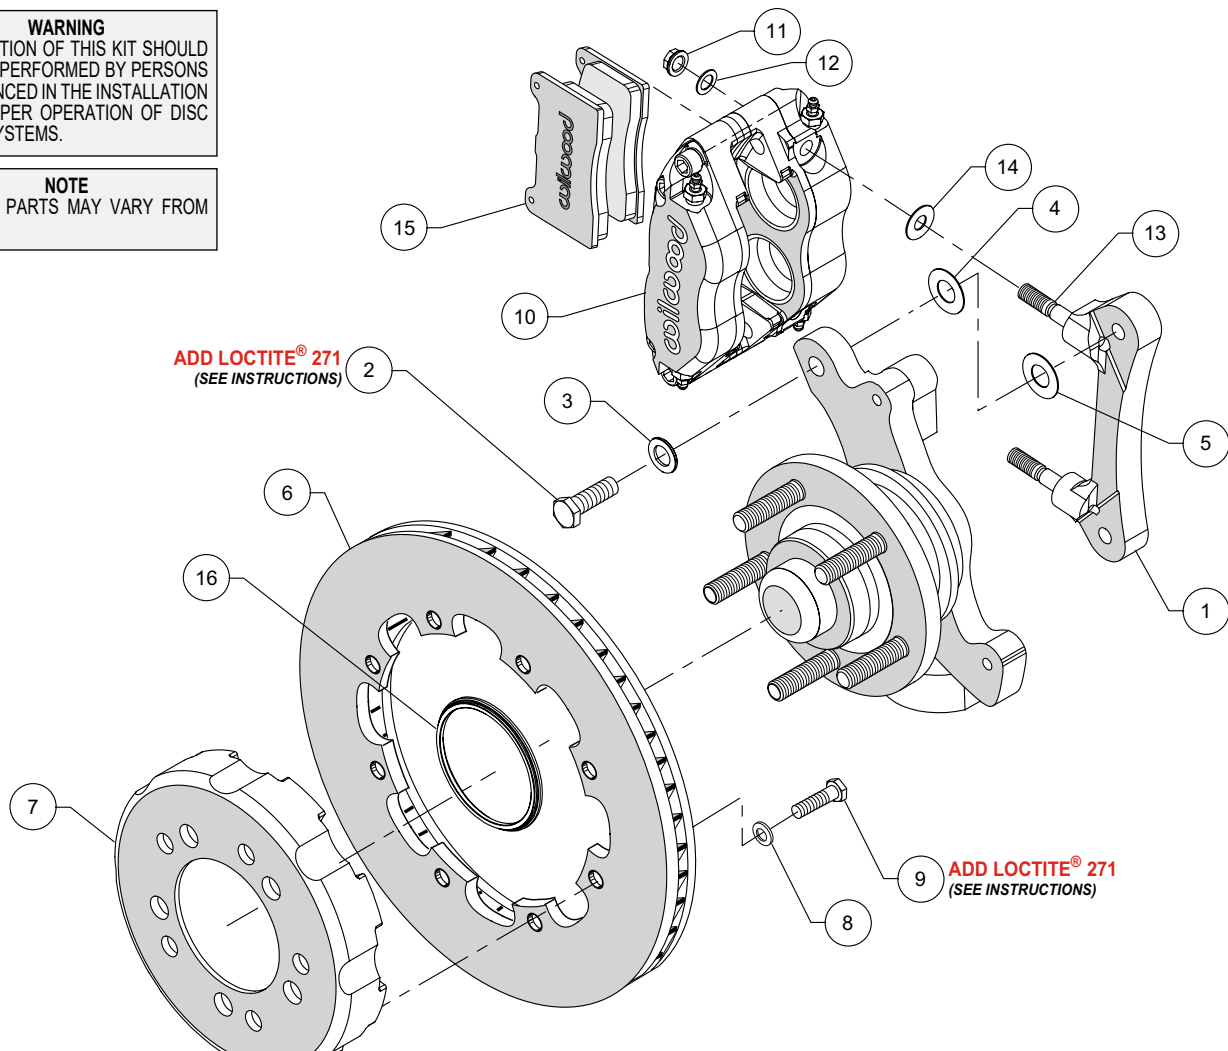
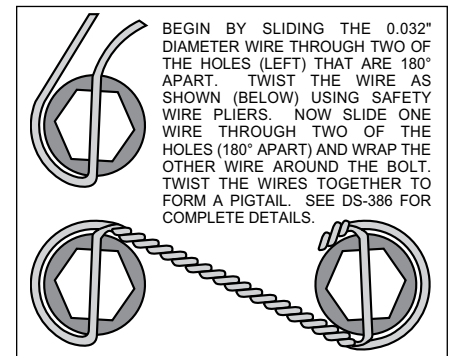

Figure 1. Typical Installation Configuration
Figure 4. Safety Wire Diagram
NOTE: Numbers in parenthesis refer to the parts list and Figure 1 on the preceding pages.
- The caliper mount bracket assembly (1) should be installed first with clean, dry threads on the mounting bolts. Install the bracket on the inboard side of the spindle by sliding bolt (2) through flat washer (3), and spindle ear from the outboard side of the spindle. Place two shim washers (5) between the bracket (1) and the spindle (see figure 1). The bracket must tighten squarely against the inboard side of the modified caliper mount bosses on the spindle body. Inspect for interference from casting irregularities, machining ridges, burrs, etc. Later, after the caliper, pad, and rotor alignment has been checked, and any necessary shims have been put in place, the mount bolts should be coated with red *Loctite*® 271 and torqued to 65 ft-lbs.
- Slide the rotor registration adapter (16) onto the axle register on the axle flange with the smaller O.D. facing toward the hat (7)
- With the larger I.D. side of the rotor (6) facing away from the hat (7), attach the rotor (6) to the hat (7) using washers (8) and bolts (9) as shown in Figure 1. Apply red *Loctite*® 271 to the bolt threads and torque to 25 ft-lb using a criss-cross pattern. For an added measure of security, the bolts may be safety wired using standard 0.032 inch diameter stainless steel safety wire as shown in Figure 4. Please refer to Wilwood's data sheet DS-386 (available at www.wilwood.com/Pdf/DataSheets/ds386.pdf) for complete safety wire installation instructions.
- Install two shims (14) over each stud (13) on the radial mount bracket. Slide the caliper (10) in place over the studs and rotors and install the washer (12) and lock nut (11) to hold the caliper in place. Snug the lock nuts (11) and check that the rotor (6) is